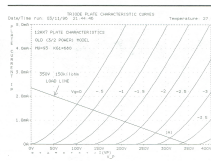
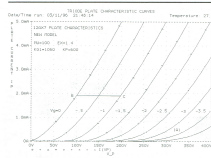

FIGURE 1: 12AX7 plate curve from previous models.
FIGURE 2: 12AX7 plate curve from new model.
The pentode equation differs from the triode equation in that the screen grid replaces the plate as a controlling element, and an arctangent factor (from Scott Reynolds' model) is inserted to model the response-curve "knee," whose location is proportional to  $k_{G2}$ . Equations (1) and (2) are forms of the Langmuir-Childs law, which can be derived from fundamental physics.3 Plate curves for a 12AX7 triode with  $\mu = 93$  (below the specified value but a good overall fit to equation (1)) are illustrated in Fig. 1.
The difficulty with plate-current equations (1) and (2) is that they assume that the grid has perfect control over the plate current, i.e., that there is no leakage current. The real world is, alas, not so kind, and these equations give a poor estimate of plate current for large positive plate voltage and large negative grid voltage.4 You can see this by comparing region (A) in Fig. 1 with region (A) in Fig. 2, which is derived from the new model, but matches published curves5 extremely well.
The modeling error would not be serious if tubes did not operate in the region of greatest error. Unfortunately they do, as illustrated in Fig. 1 by a typical load line for a 12AX7 with a 350V plate supply and a 150k $\Omega$  plate resistor. The load line crosses region (A), and operation may extend into this region for large signals. This problem is exacerbated in Class AB push-pull amplifiers, where the operation of each tube traverses the region of worst error as it moves from conduction to cut-